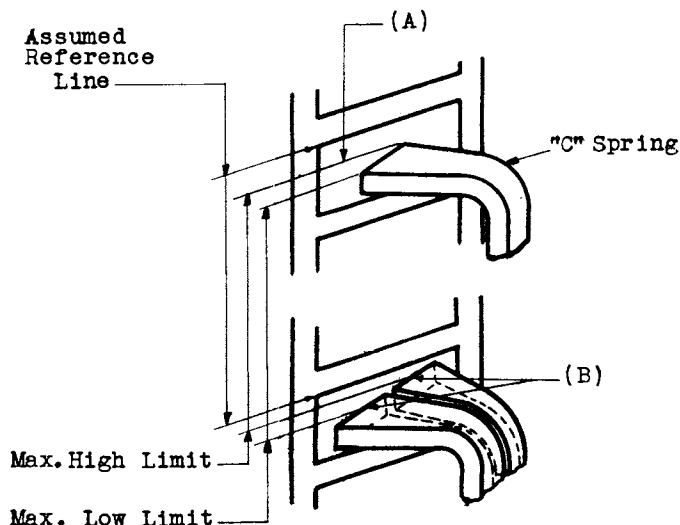

Fig. 7
- (b) Fig. 7 (A) - "C" Springs of All Brushes shall be so adjusted that the full width of the contact portion of the spring comes within the specified limits. Gauge by eye.
- (c) Fig. 7 (B) - All Commutator Springs Except the "C" Springs are satisfactorily adjusted for position, if at a point in the middle of the contact portion of the spring, (of each leaf, in the case of a split spring) it is within the specified limits. These limits shall be measured from the top edge or from the bottom edge of the contact portion of the spring to the top edge or the bottom edge of the corresponding commutator segment as indicated in the tables of limits on pages 4 to 23. Adjustments shall always be made either with the brush rod resting on the associated pawl in